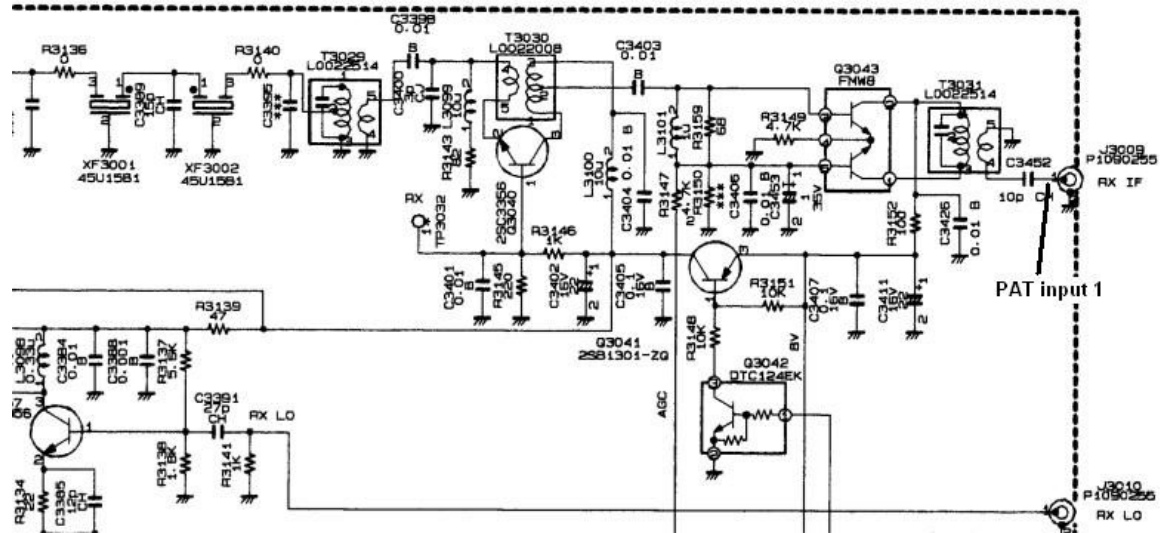

Fig 2 – Panadaptor input connection at J3009
- 6 The RF input to the board comes from the IF output of the RF board, at J3009. This is after the 45MHz IF filter and one IF amplifier stage - see Figs 2 and 3. This is labelled as PAT input 1, and is the correct location for use as an IF Panadaptor.